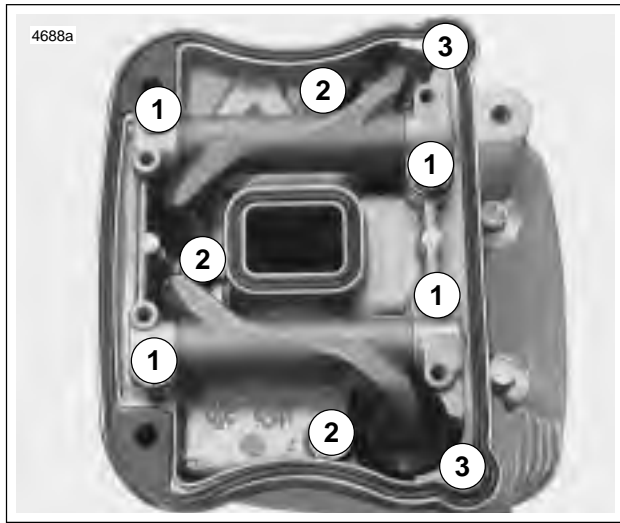

Figure 3-90. Lower Rocker Box Fasteners
9. See Figure 3-90. Install **new** gaskets with the bead facing up. Place lower rocker box assembly (with rocker arms and shafts) into position. Place push rods in rocker arm sockets.
(1) Bolt w/washer	5/16-18 X 2-1/2	18-22 ft-lbs (24-30 Nm)
(2) Bolt w/washer	1/4-20 X 1-1/4	11-13 ft-lbs (15-18 Nm)
(3) Screw w/washer	1/4-20 X 1-1/2	135-155 in-lbs (15-18 Nm)
10. See Figure 3-90. Install hardware attaching lower rocker cover to cylinder head in the following order. After loosely installing all fasteners, use a cross pattern on the four large bolts that fasten the lower rocker box to head to tighten and then torque to specifications. This will bleed the tappets. Finish tightening remaining fasteners. Fastener sequences, sizes and torque specifications are listed in Table 3-22.
- Tighten bolts (1) to 18-22 ft-lbs (24-30 Nm).
- Tighten bolts (2) to 135-155 **in-lbs** (15-18 Nm).
- Tighten bolts (3) to 135-155 **in-lbs** (15-18 Nm).